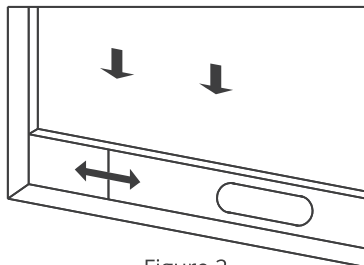
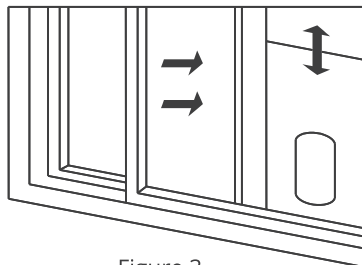

Figure 2
Figure 3
1) Half open the window, and mount the window sealing plate assembly to the window (as shown in Figure 2 and Figure 3); the assembly can be placed in horizontal and vertical direction.